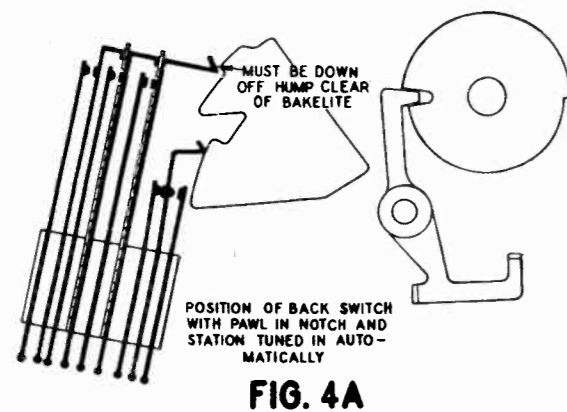

FIG. 4A
d. Turn the Set-up Knob until the Pawl of the depressed button falls into the Notch on the Station Selector Cam. The Power, Mute and A.F.C. contacts should now be open at least 1/64 inch as shown in Figure 4A.